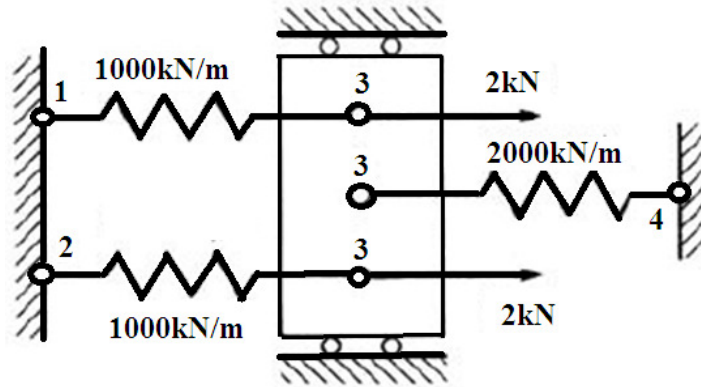

Figure Q1
- (i) Formulate the global stiffness matrix for the system in Figure Q1.